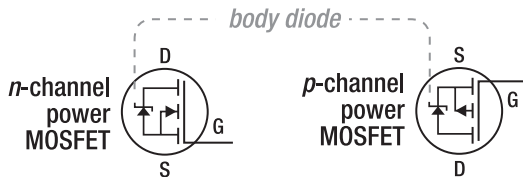

Figure 10-11. Both the *n*-channel (left) and *p*-channel (right) power MOSFETs include a diode intrinsic to their internal structure.
Unlike the bipolar H-bridge, discrete *flyback* diodes aren't absolutely required in a power MOSFET H-bridge because the power MOSFETs include diodes as part of their semiconductor structure. The diodes within the power MOSFETs are called *body diodes* and are shown in the schematic symbols (see Figure 10-11).
Having built-in diodes means you need to be careful about how you insert or wire a power MOSFET in a circuit. In Figure 10-11, note the opposite locations of source (S) and drain (D) in relation to the body diode in *n*-channel versus *p*-channel MOSFETs. If you insert or wire a power MOSFET backward, the power will rush through the body diode. Such a mistake would seriously mess up a motor-driver circuit. Conversely, the forward-biased body diode is beneficially employed in the reverse-battery protection circuit (shown way back in Figure 7-6).